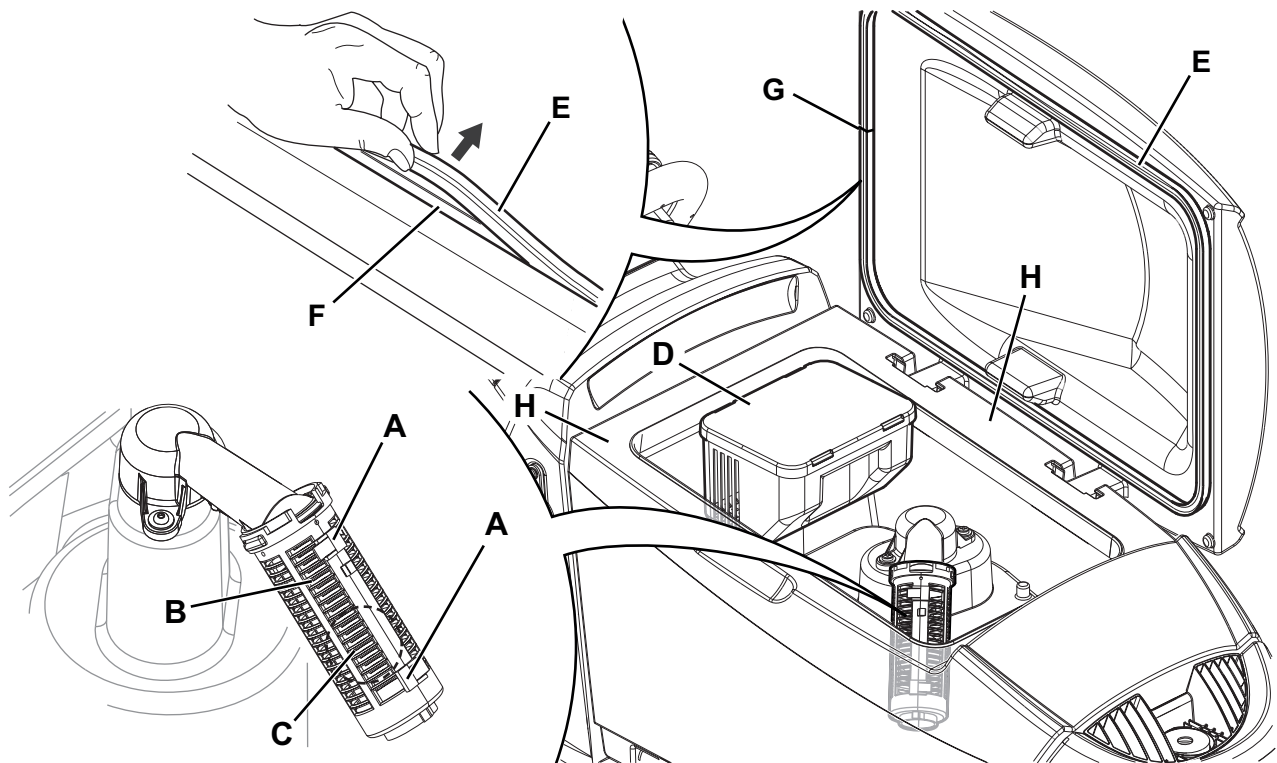

Figure 13
2. Ensure that the machine is off and the user key (51) has been removed.
3. Raise the cover (34).
4. Wash the inside of the tank (33) and the cover with clean water.
5. Drain the water in the tank through the hose (12).
6. Clean the vacuum grid (31), release the fasteners (A, Fig. 13), open the grid (B) and recover the float (C) then clean it carefully and reinstall it.
7. Remove the debris collection tank (D) and open its cover, then clean it carefully and reinstall it on the vacuum hose.
8. Check the condition of the tank cover gasket (E).